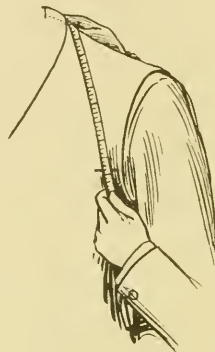

FIG. 6
10. **Strap Measure.**—Place the end of the tape-line at the cross-mark in front of the arm, "or place the 10-inch mark of the tape-line on the cross mark; a better hold on the tape with the left hand can be obtained. (See Fig. 6.) When calling out the numbers deduct 10 inches from the amount, as for example, strap length would show 22 inches; call out 12 inches."